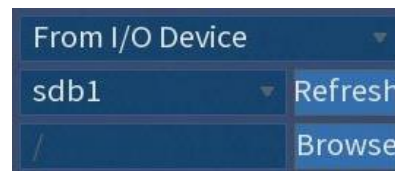

Figure 5-68
- **From I/O Device:** Recorded videos playback from external storage device. See Figure 5-68.